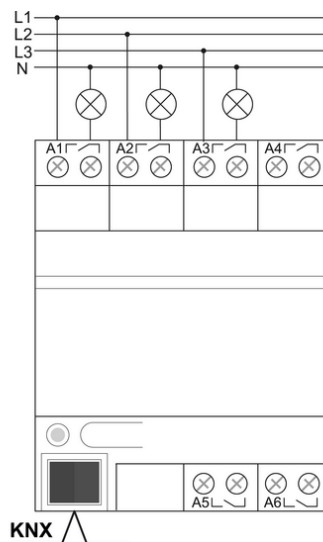

Figure 2: Connection example Switch actuator
- Connect device as shown in the connection example (Figure 2).